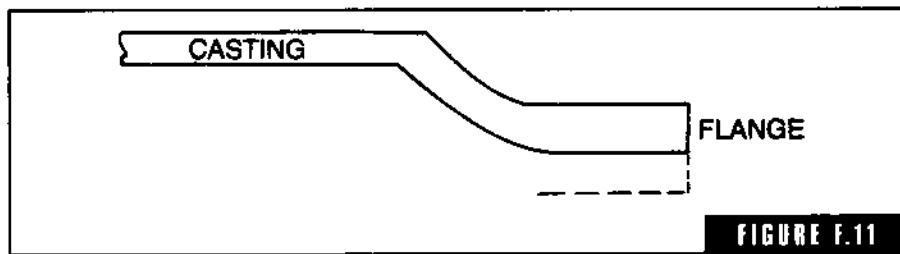

FIGURE F.11
**flange** A stiffening member or a means of attachment to another object (Fig. F-11).